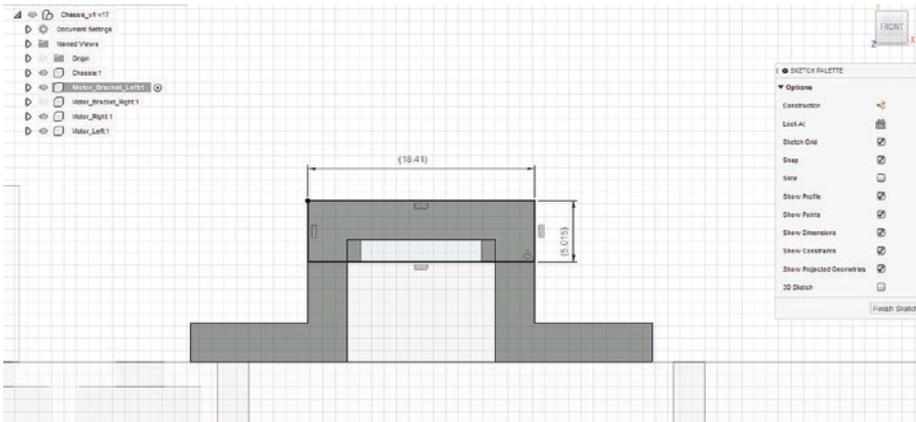

Figure 6-67. Create a rectangle that will hold in the back of the motor
37. Create another brace for the back of the bracket; this will make sure the motor does not slip out the back of the bracket. See Figure 6-67.